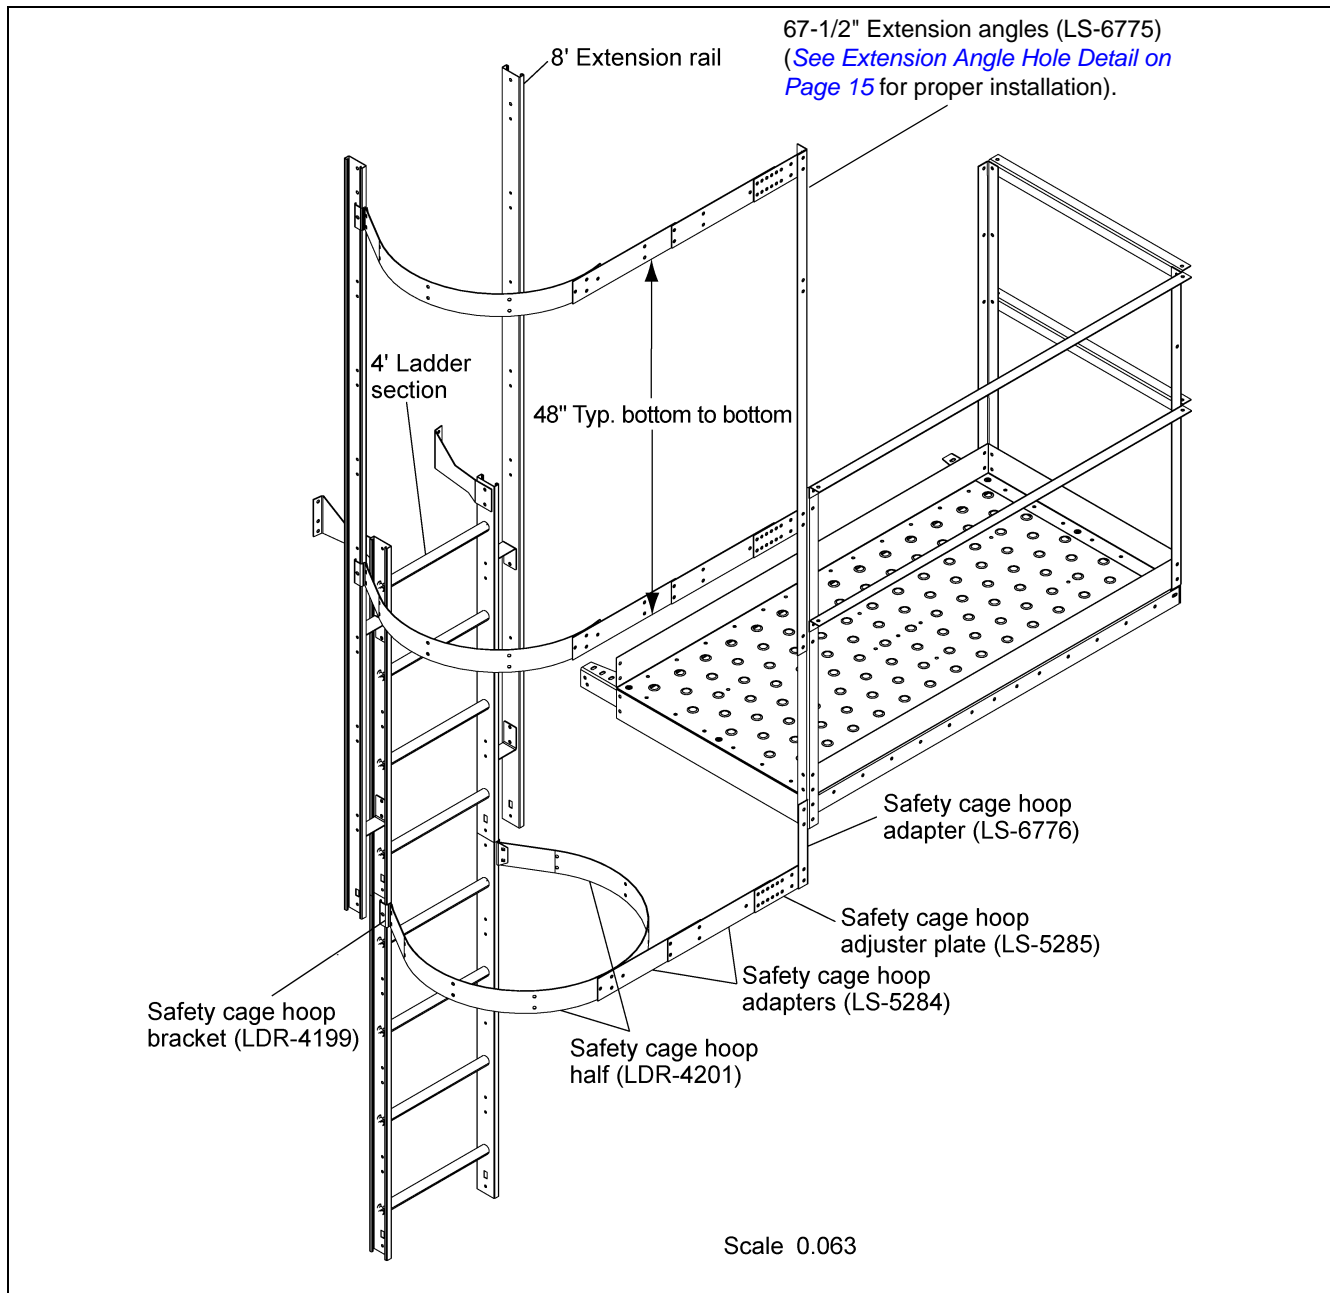

Figure 6L
Before attaching any pieces to the ladders or platform, some pre-assembly is required. Attach two (2) safety cage brackets to the 8' extension rail and one (1) safety cage bracket to the second 4' ladder section as shown in Figure 6L. Bolt the safety cage hoop adjuster plates onto the extension angle as shown in Figure 6L. Using the proper configuration depending on the bin diameter (See Adapter Assembly Detail on Page 53), bolt the safety cage hoop adapters together and attach to the safety cage hoop halves. Be sure to use the 5/16" x 3/4" bolt with the head of the bolt to the inside of the safety cage. Bolt these assemblies to the safety cage brackets and hoop adjuster plates (See Connection Detail on Page 53 for proper hole location). Tighten bolts as you go. The bottom assembly requires two (2) hoop halves and will be positioned just below the platform as shown in Figure 6L. Use the safety cage hoop adjuster angle to secure the two (2) hoop half assemblies to the vertical entrance angle on the platform assembly.
**NOTE:** 48" vertical supports removed in Figure 6L for clarity.